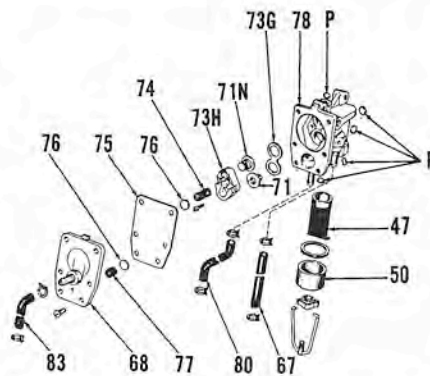

Fig. J85—Exploded view of fuel pump and strainer used on some motors.
Fig. J84—Schematic diagram showing operation of the crankcase operated, diaphragm fuel pump. Pressure and vacuum pulsations pass from crankcase to rear of diaphragm (D) to induce a pumping action on fuel line as shown. Refer to Fig. J85 for legend and an exploded view of pump.
All defective or questionable parts should be renewed. Diaphragm (75—Fig. J85) should be renewed if air leaks or cracks are found, or if its condition is in any way questionable.